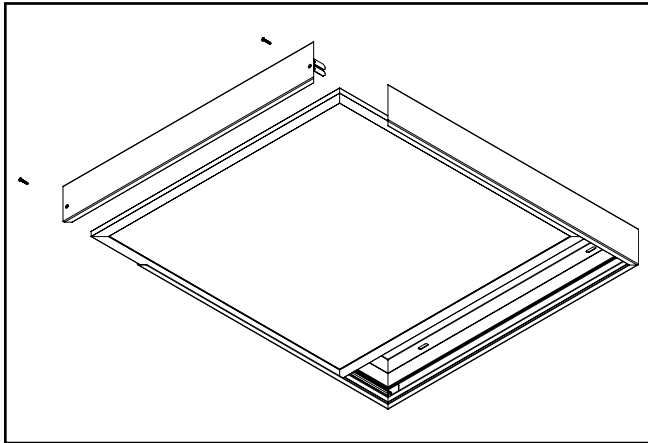

**Figure 6.**
3. The spacing for the mounting holes is 16" center-to-center. (Figure 6.)